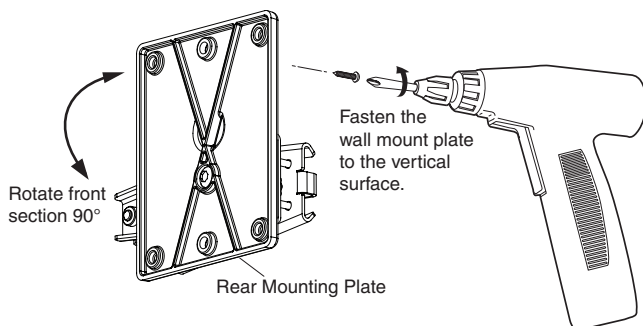

Figure 5 — Rotating and mounting the wall mount assembly
2. Remove the wall mount assembly from the box and loosen the central hex cap screw (turning it counter clockwise) with the supplied hex tool. Rotate the front section approximately 90 degrees to the rear mounting plate, as shown in figure 5, and tighten the hex cap screw to lock the front section in position. This makes the next steps easier to perform.
7. Place the wall mount assembly against the wall, aligning the plate mounting holes with those drilled, and secure the assembly with appropriate hardware (see figure 5) using a screwdriver with an appropriate screw bit.